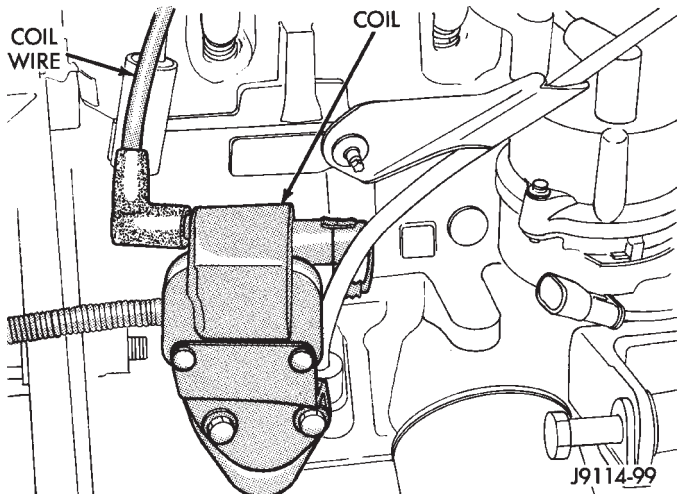

Fig. 5 Ignition Coil—2.5L Engine
(4) Inspect ignition coil connections. Verify that coil secondary cable is firmly connected to coil (Figs. 5 or 6).